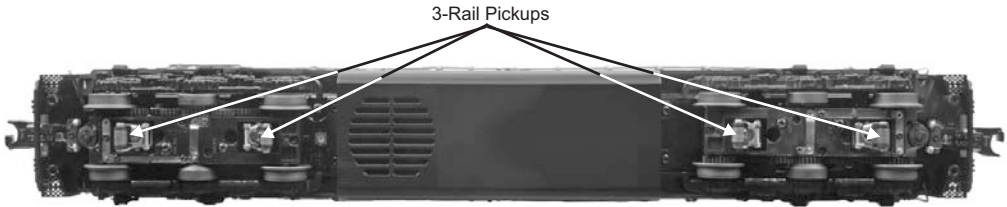

Figure 5: 2-Rail/ 3-Rail Operation
1. Remove the center rail pickup roller assemblies as seen in figure 5.